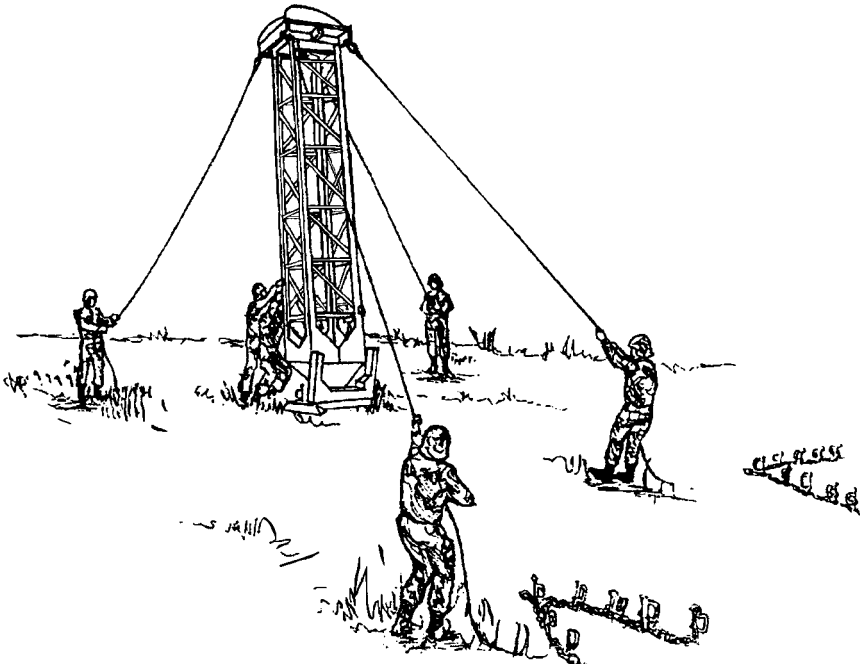

Figure 18. Raising the Tower.
- (1) To assemble the anchor tower, anchor the tower base, rig the guy lines, and provide deadmen or hold-fasts for the tower guy lines. Begin installation of the deadman to which the overhead cable will be attached prior to tower erection.
- (2) Install tower base plates and chain holdfasts.
- (3) Connect the pivot unit, the required number of tower sections (from the tower design), and the tower cap. Bolt the tower cap to the top tower section. The tower cap has a 3-in. (7.6-cm) saddle, which must be aligned to receive the overhead cable. For multiple cable systems, ensure that the two-cap adapter with two wire rope slings is attached to the top tower section.
- (4) Before raising the tower, secure the guy lines to the tower cap. Take care not to tangle or foul these guy lines. Place the erection arm in the pivot unit and pin it to the tower base to keep the pivot unit in the base socket.
- (5) Raise the tower. For taller towers, some lifting device may be needed. (Refer to figure 18). Any crane, M728 combat engineer vehicle, or M88 recovery vehicle can be used.
- (6) Adjust the tower guy lines as required.